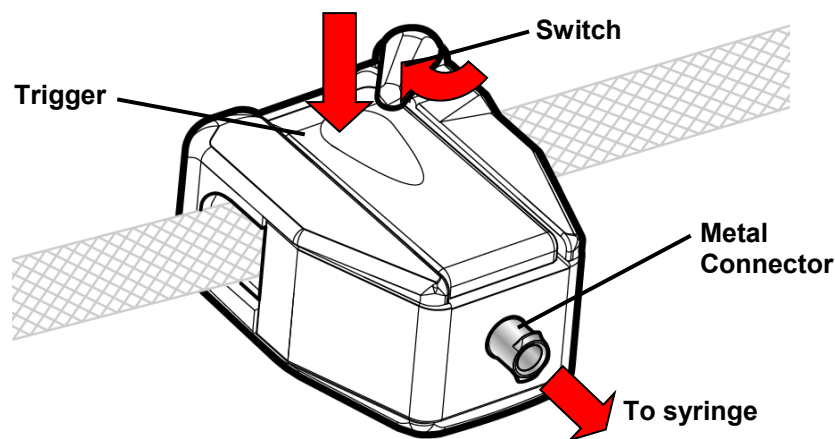

Figure 136 – Dialysate Sampling from the Dialysate Sample Port (Port Open)
3. Press down on the dialysate sampler port trigger and flip the switch to lock the port in the open position (see Figure 136). The dialysate path will now be open through the dialysate sample port to the syringe.